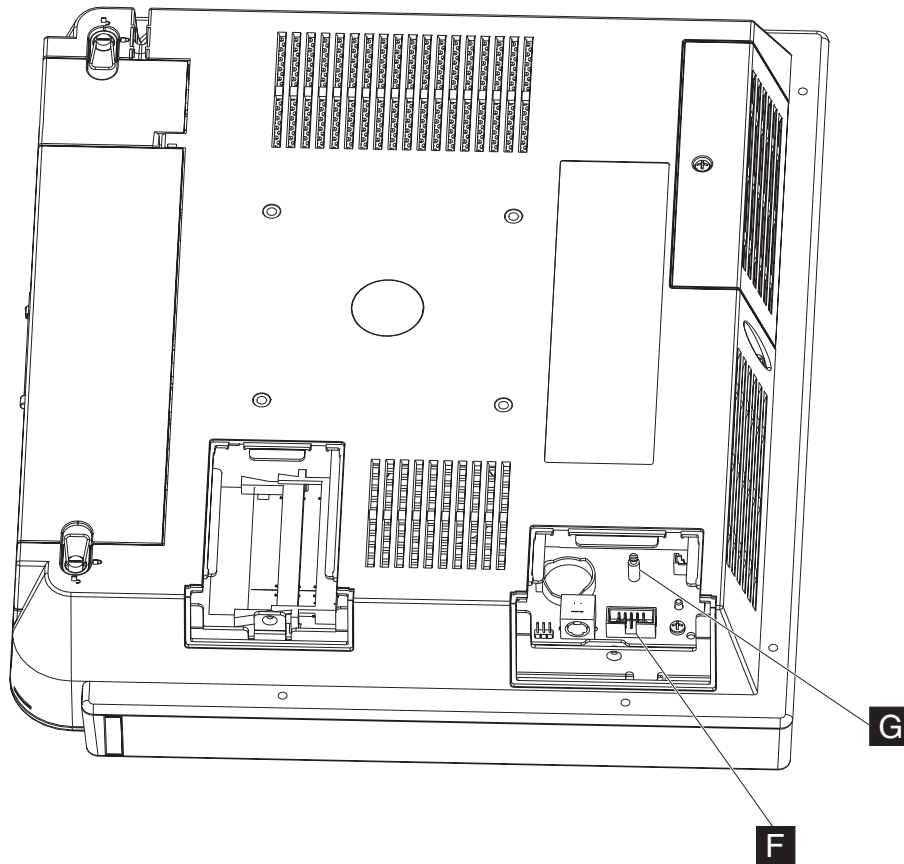

Figure 32. Location of the flash drive
2. Locate the flash drive connector (**F** in Figure 32) and lift up to remove the plug-in flash drive.